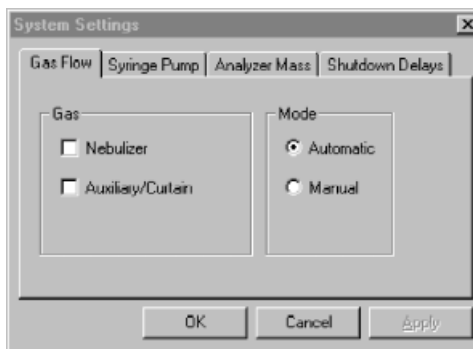

Figure 2-3 Gas Flow Page
1. In the Instrument Control Panel, select **System Settings** from the Instrument menu, then click the **Gas Flow** tab to display the Gas Flow page (Figure 2-3).